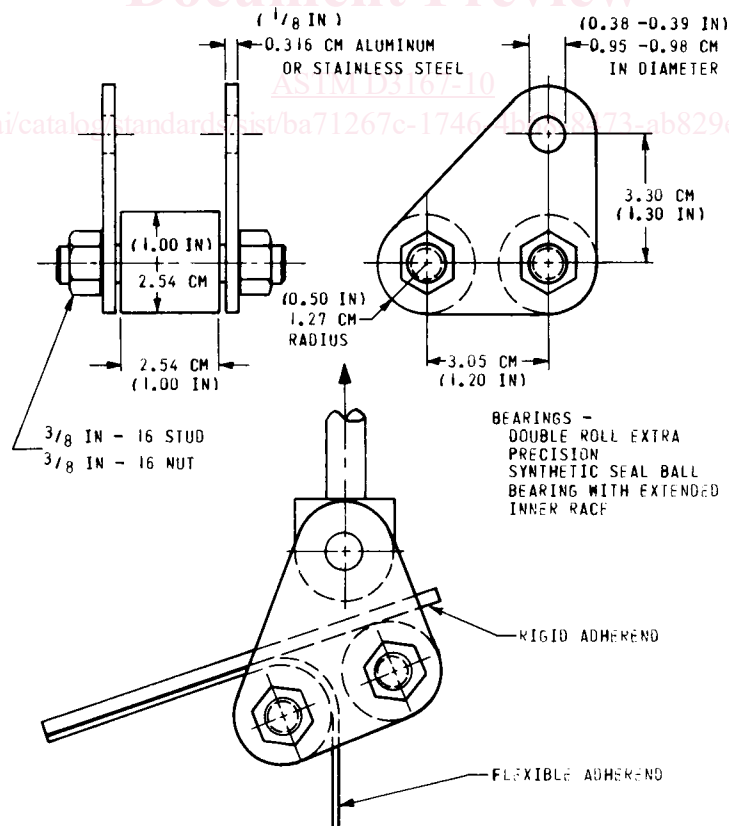

FIG. 1 Roller Drum Peel Test Fixture
4.1 This test method consists of testing laminated or bonded adherends, where one adherend is made to be rigid and the other adherend is made to be flexible, by peeling of the flexible adherend from the rigid adherend at a controlled angle of peel using the test fixture shown in Fig. 1.